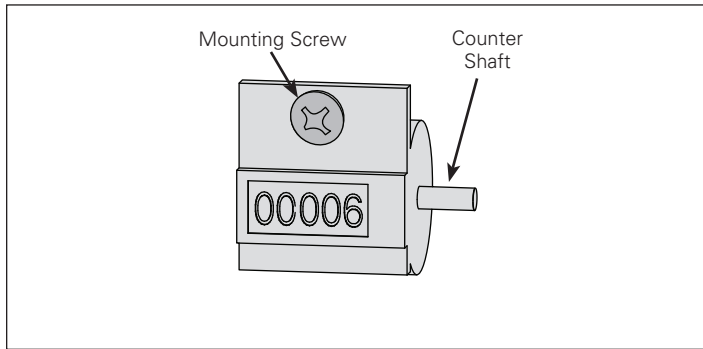
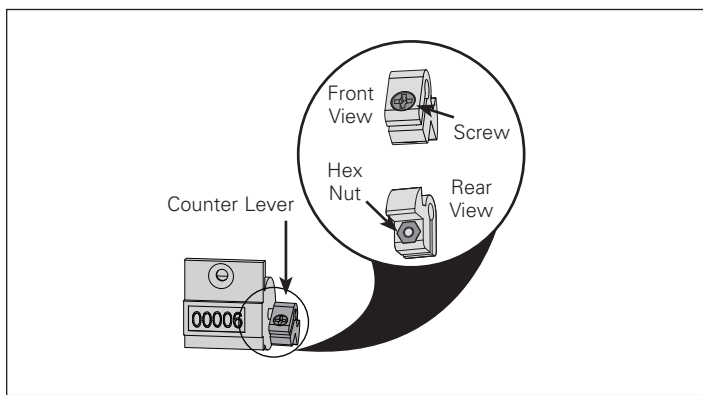

Figure 2. Counter with Mounting Screw
Figure 3. Counter Lever Mounted with Screw and Hex Nut
- Counter with mounting screw (M3 x 0.5–5 mm long) (**Figure 2**)
- Counter lever, screw (M2 x 0.4–8 mm long) and hex nut (M2 x 0.4) (**Figure 3**)
Step 3: If the counter lever is already loosely installed on the counter shaft as shown in **Figure 3**, skip Step 3 and go to Step 4. If the counter lever is not loosely installed on the counter shaft, proceed with Step 3. Loosely install the counter lever on the counter's shaft (**Figure 2**) using the provided M2 x 0.4 screw and nut. The screw should not be torqued tight at this point to permit movement of the counter lever on the shaft.